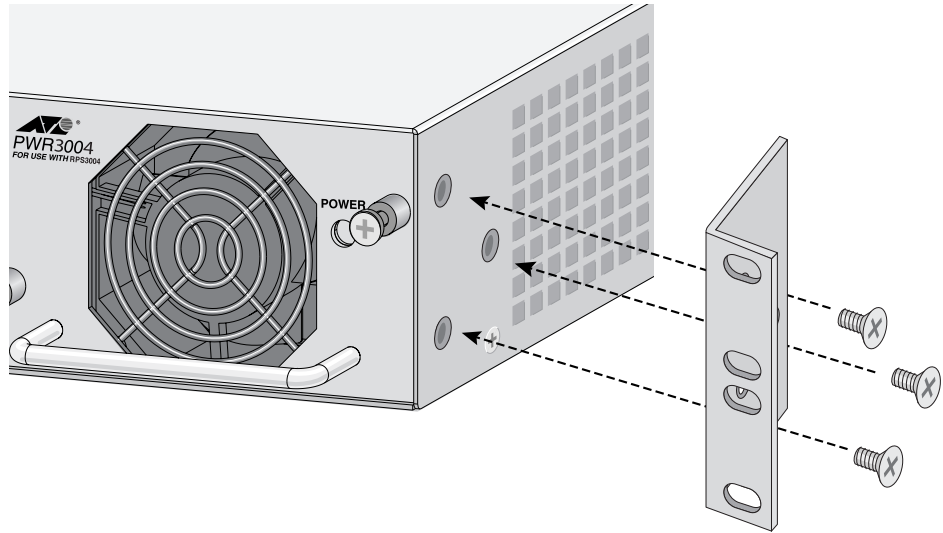

Figure 27. Attaching Rackmounting Brackets
4. Attach a rackmounting bracket to one side of the power supply using four of the screws that came with the power supply. See Figure 27.